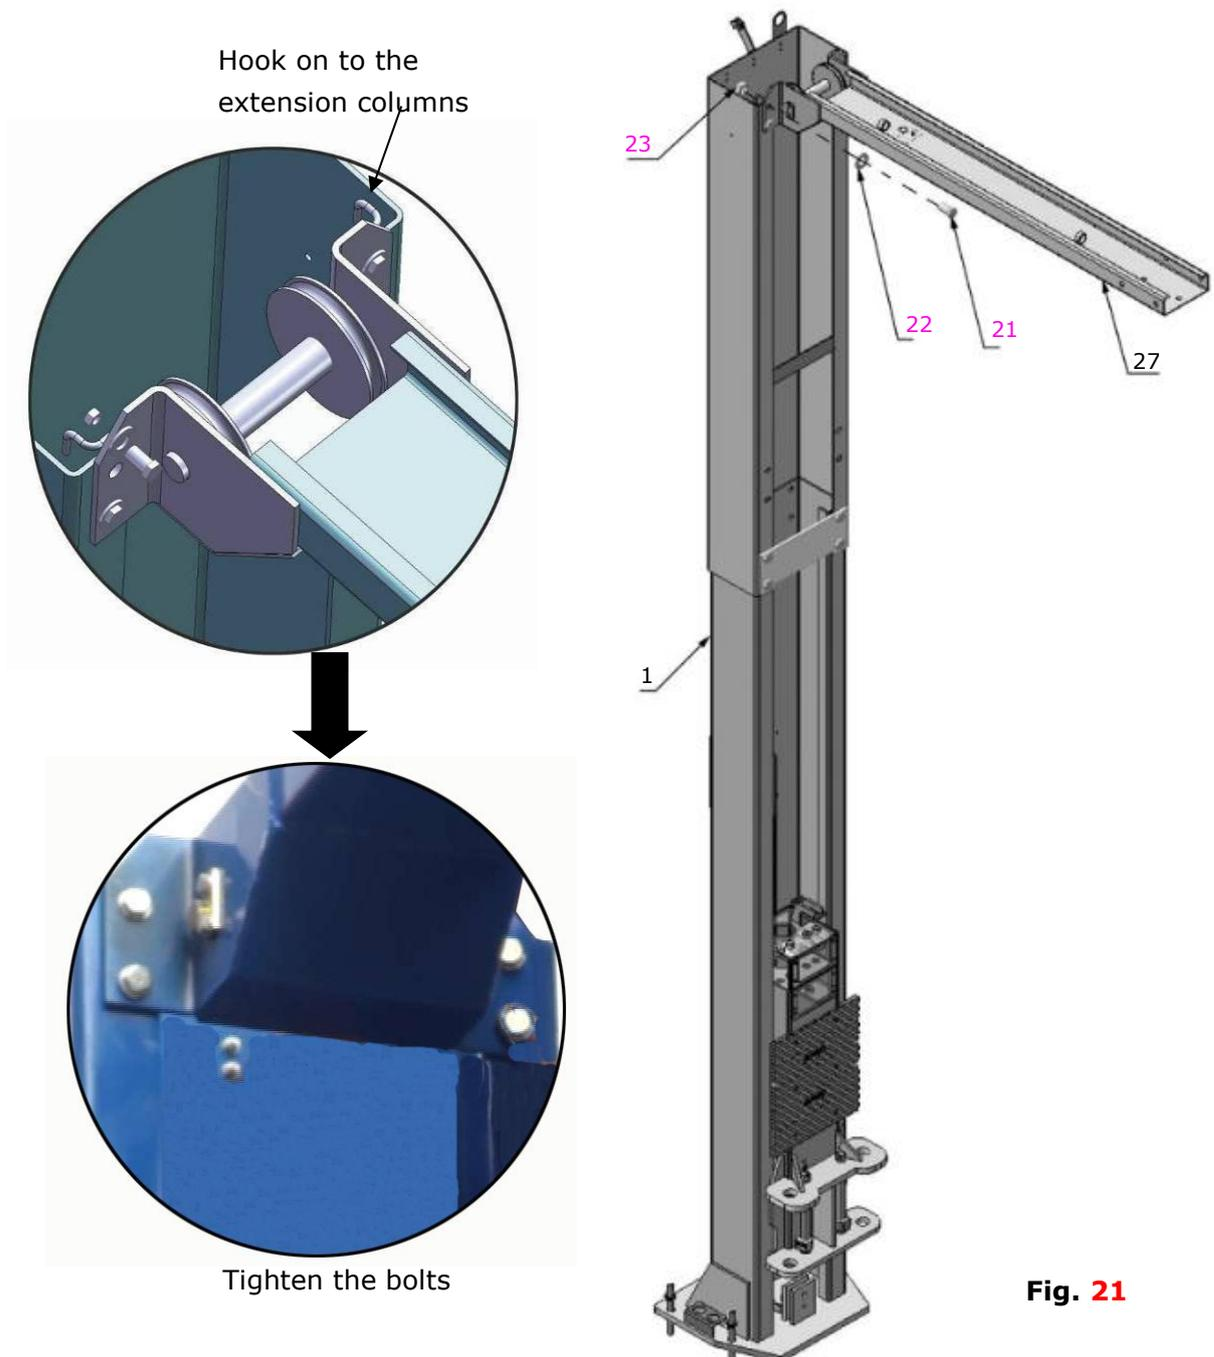

Fig. 21
1. With help of the hook of top beam, put one side of top beam on top of the extension column and connecting the top beam to extension column by bolts, tighten the bolts. Then assemble the connecting bracket (See Fig. 21).